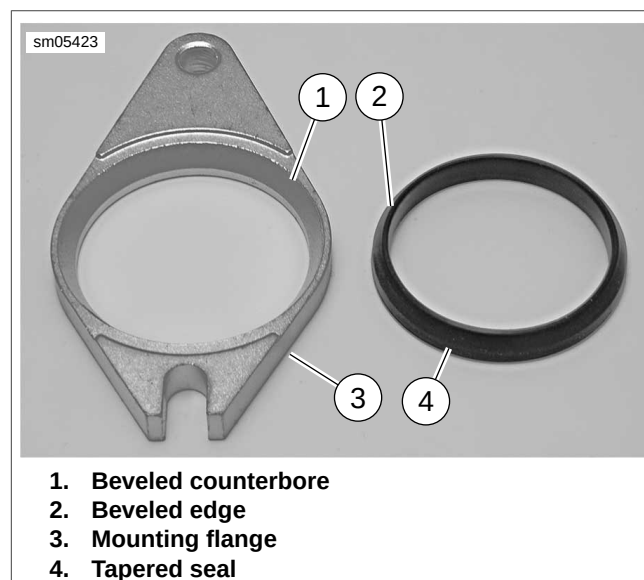

Figure 4-53. Mounting Flange and Seal
2. See Figure 4-53. Install mounting flanges (3) on induction module with counterbore (1) facing toward the engine.
3. Place a **new** seal (4) into each mounting flange with the beveled edge (2) facing the mounting flange counterbore. Rotate the flanges so the slotted mounting hole is on the same side as the IAC solenoid.